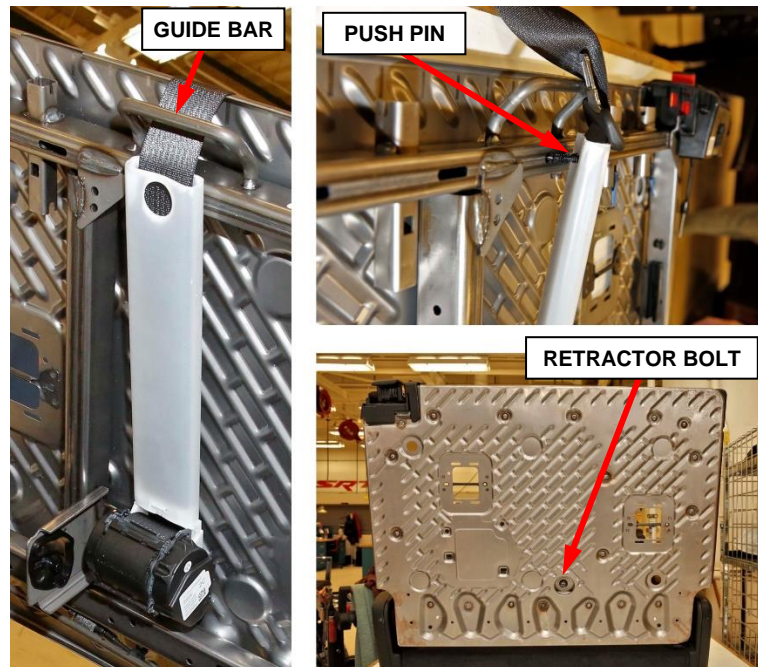

Figure 39 – Seatbelt Retractor Assembly
- 46. Remove and **DISCARD** the bolt securing the center seatbelt retractor (Figure 39).
- 47. Release the center seatbelt guide sleeve push pin (Figure 39).
- 48. Guide the center seatbelt through the seat back frame guide bar then remove the center seatbelt assembly (Figure 39).
58. Guide the center seatbelt through the seat back frame guide bar (Figure 39).
59. Position the center seatbelt retractor then install the **NEW** bolt and tighten to 47 N·m (35 ft. lbs.) (Figure 39).
60. Position the center seatbelt guide sleeve and install the push pin (Figure 39).